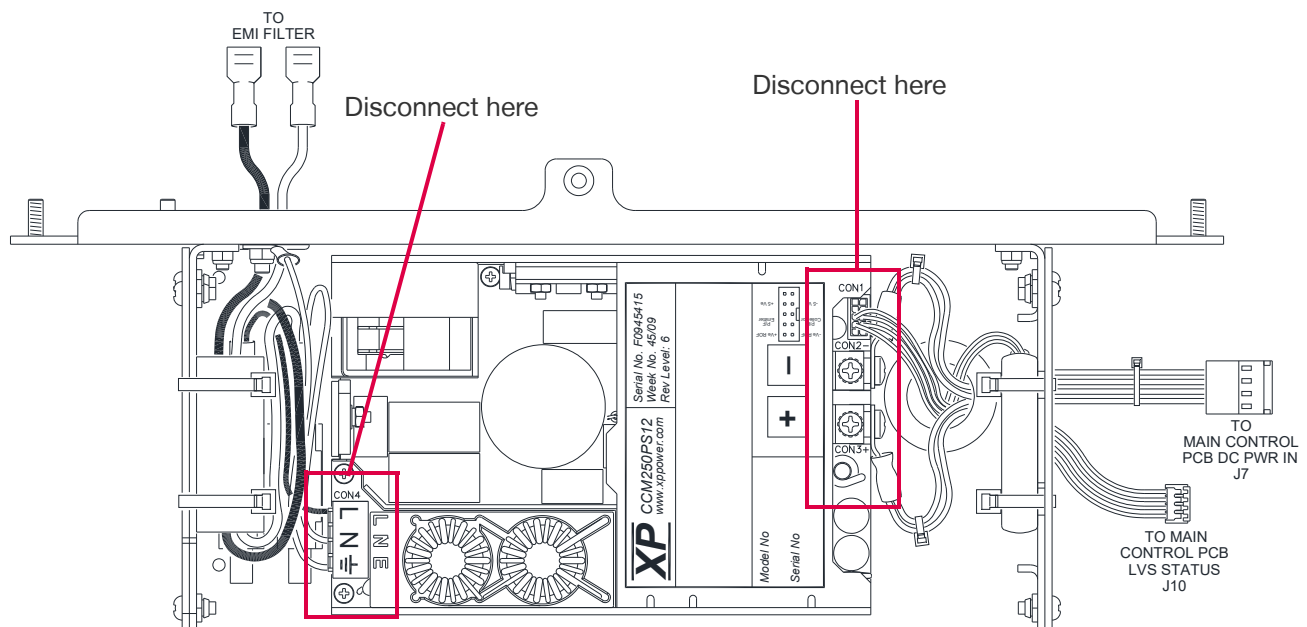

Figure 3-63: Interface Power Supply Connections
- Step 5. Flip the Interface over, as the power supply is mounted under the Interface; unplug and unscrew all wire connections to power supply, then flip the Interface right side up. (Figure 3-63)